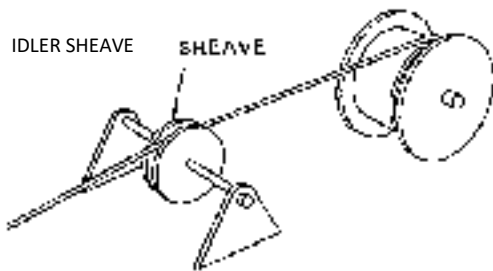

Figure 1 **Figure 1**
1. An idler sheave which supports a long length of the rope. (See Figure 1)